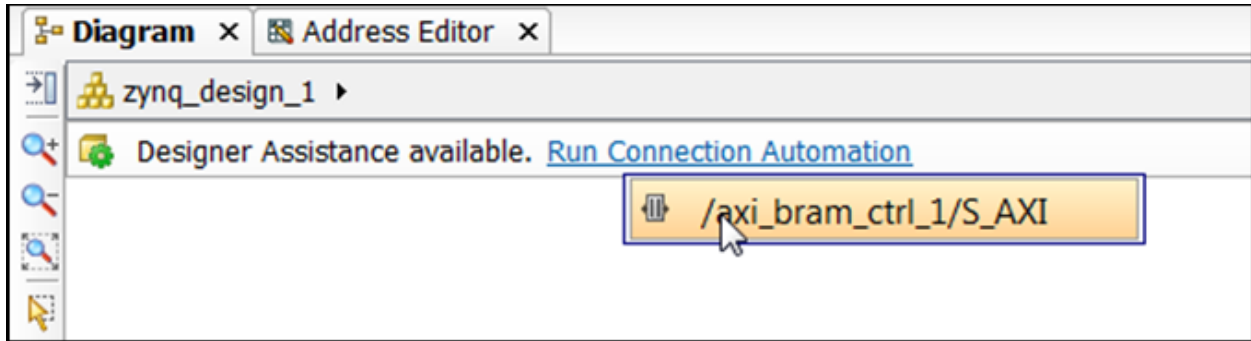

Figure 17: axi_bram_ctrl Selection
- Click **Run Connection Automation** again, and select the remaining option `/axi_bram_ctrl_1/S_AXI` (Figure 17).